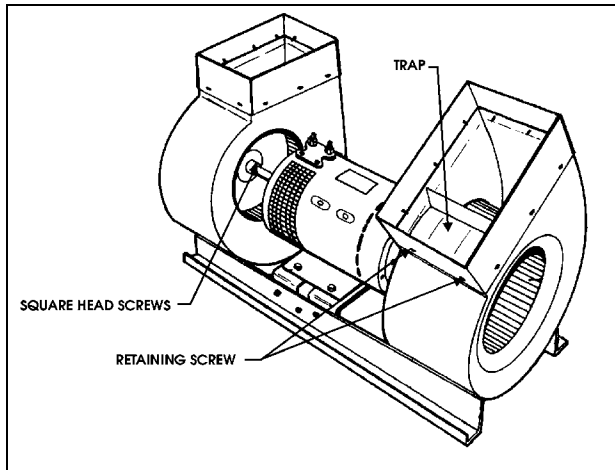

FIGURE 16: EVAPORATOR MOTOR ASSEMBLY 22036
7. From under the vehicle, remove the eight bolts retaining the evaporator fan motor support. Remove the complete unit from the HVAC compartment (Fig. 16).